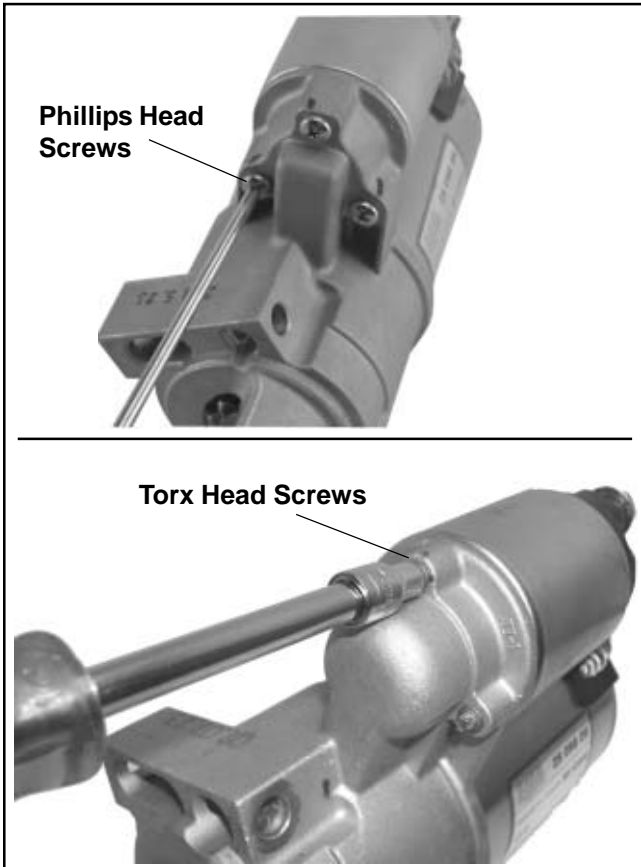

Figure 8-41. Removing Solenoid Screws.
2. Remove the three screws securing the solenoid to the starter. See Figure 8-41.